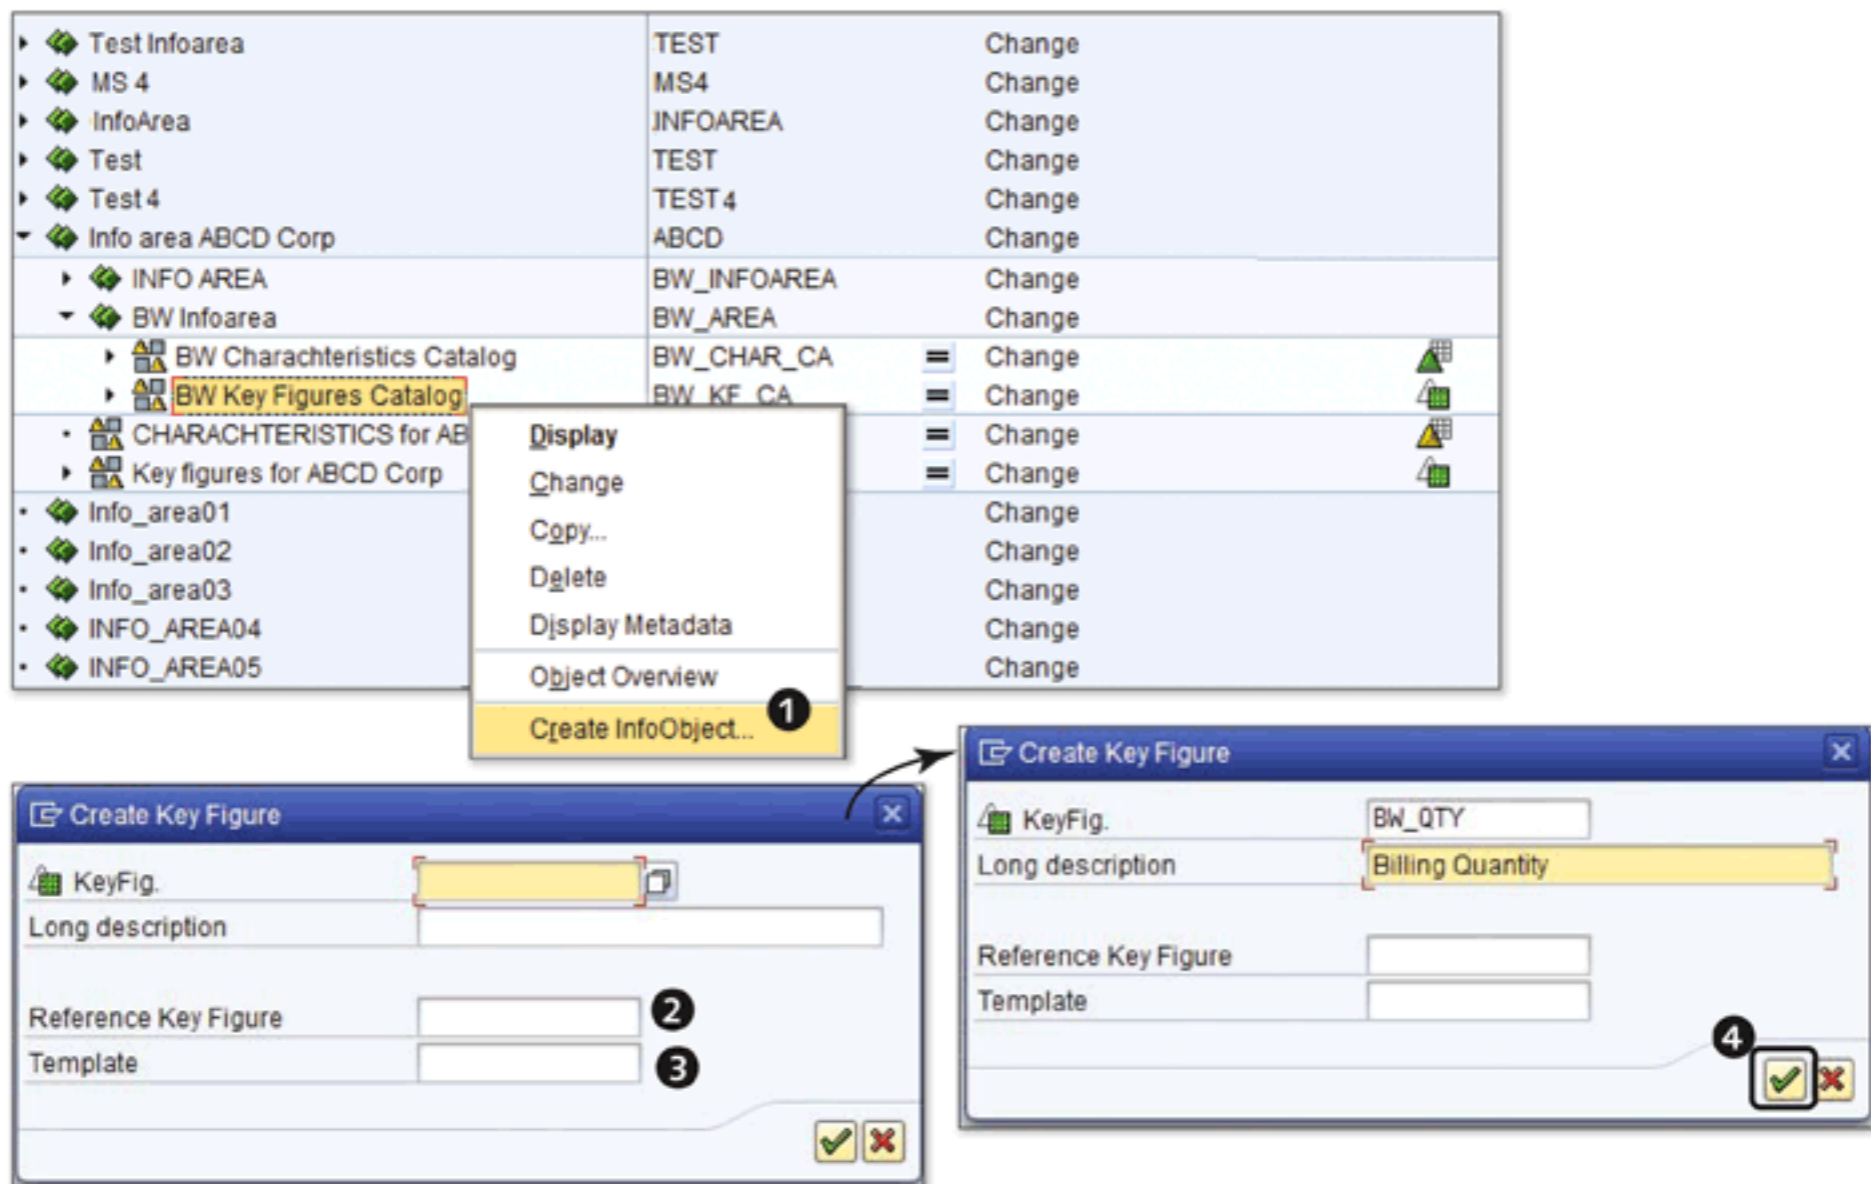

Figure 3.30 Create Key Figure InfoObject
4. Select InfoObject catalog BW_KF_CA, open the context menu, and click on CREATE INFOOBJECT (1 Figure 3.30).
Click on the CONTINUE icon (4 of Figure 3.30).